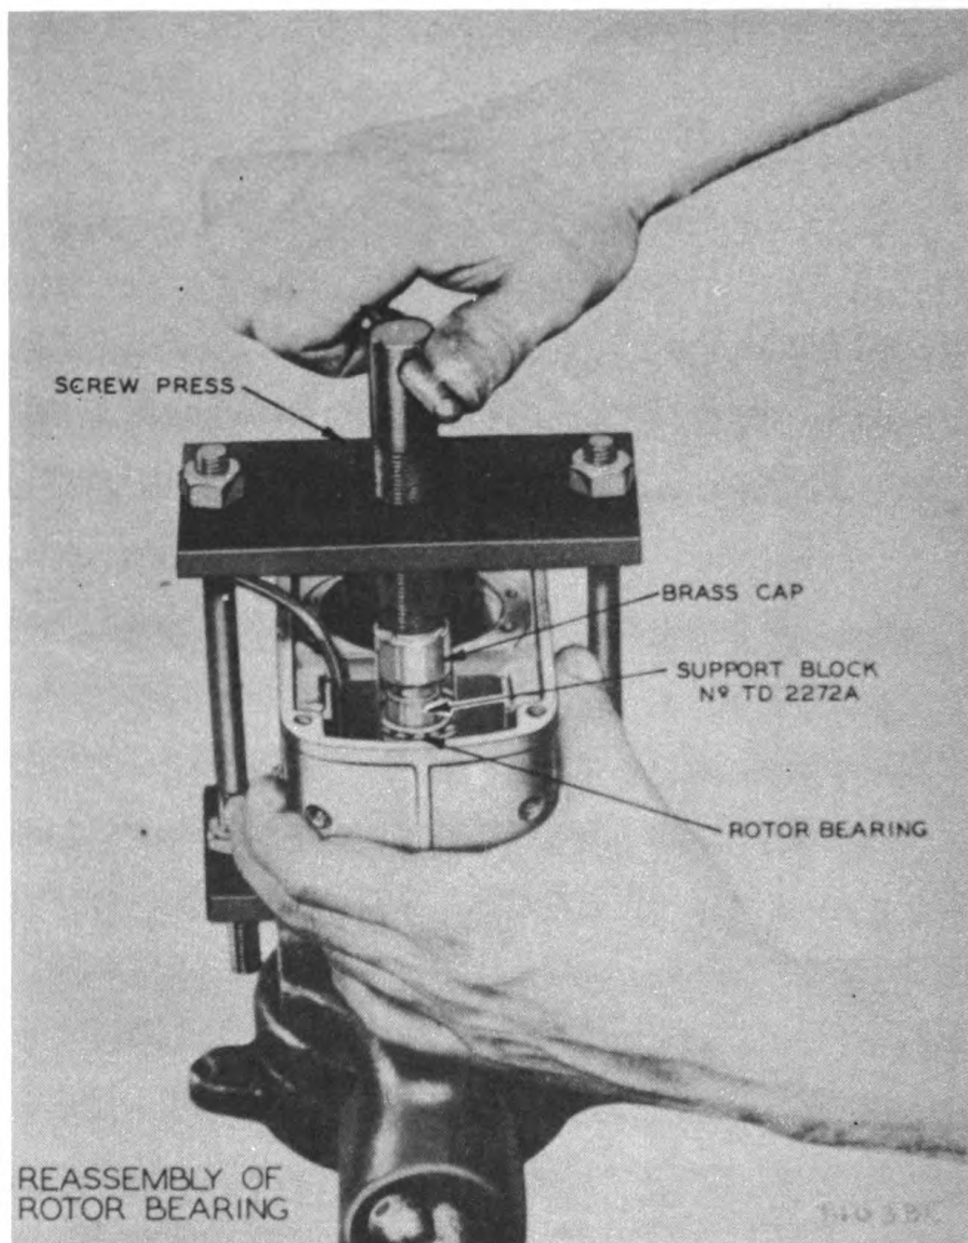

Fig. 142
**REPLACING BALL BEARING**—The inner insulating washer and insulating strip must first be placed in the frame recess and the ball bearing pushed as far as possible by hand in order to center it in respect to the insulating strip. The frame should then be placed in the screw press as shown in (Fig. 142), the small support block TD2272A centered on the ball bearing and the brass cap placed between the block and the screw of the press. Check the line up of parts to be certain that pressure exerted will be perpendicular, then turn down the screw until the bearing is completely within the frame recess. The outer insulating washer should then be placed next to the bearing and the large snap ring sprung into place.